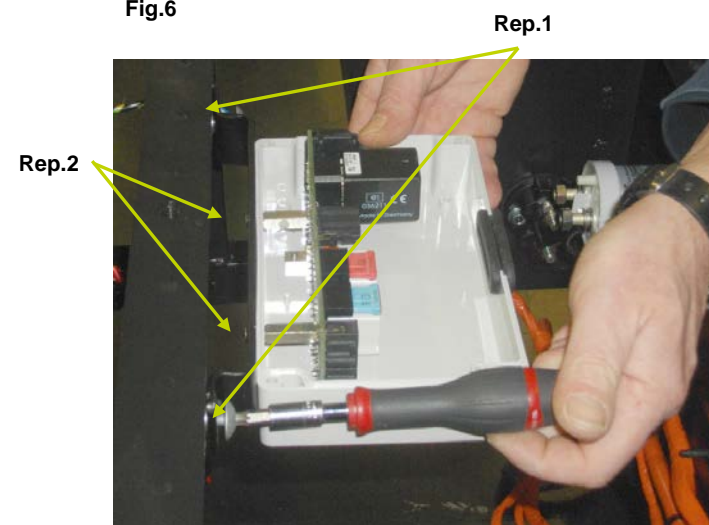

Fig.7
- Install BRCAN support bracket on BRCAN electrical base plate **(rep 2)(Fig.7)**.
- Screw the assembly on the tube **(rep 1)(Fig.7)**.